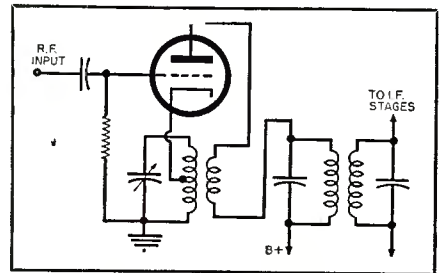

Fig. 2. The converter stage shown here is the equivalent vacuum-tube circuit of the transistor converter in Fig. 3.
There are two basic ways in which the moving coil can move. These are illustrated in Fig. 2. In Fig. 2A the coil is rotated in the magnetic field in such
Fig. 2. Basic principles of moving coil pickups. At (A) the coil rocks about an axis due to the movement of the stylus. At (B) the whole coil moves as indicated.
The foregoing oscillator arrangement is a fairly common one. Its equivalent vacuum-tube circuit is shown in Fig. 2. With the incoming signal and the local oscillator voltage both being applied to the converter transistor, the appropriate i.f. signal is formed and then fed to  $T_1$ .
Fig. 2. The transistorized d.c. amplifier is mounted on the transparent polystyrene plate secured to back of the microammeter. Tuner is on shelf-plate to the right.
barrier-type terminal strips. These screw strips offer the advantage of a solderless connection to the transistor leads, thereby removing all risk of heat-damaging the transistor. The transistors also can be removed easily from these connectors, if desired, for testing or for temporary use in other circuits. The author installed his transistors with their full pigtail lengths, as shown in Fig. 6. The pigtails then were bent slightly, as shown in Fig. 2, to position the transistors out of the way of other components.
The flashlight cells are fastened to the inside top of the case (See Fig. 2) by means of a strap made from discarded 300-ohm antenna ribbon. The carrying handle is a dime-store drawer-pull.